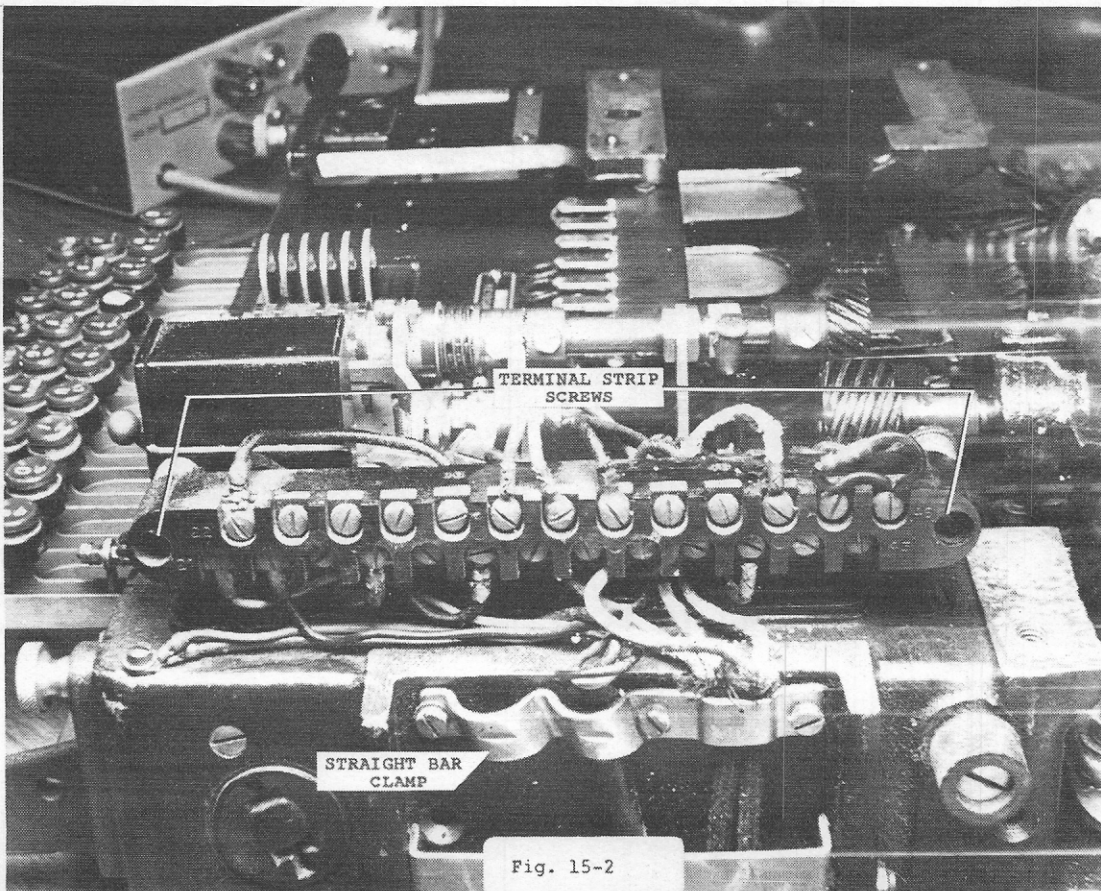

Fig. 15-2
1. Remove all old power and signal cords from the terminal strip on the right side of the base. Loosen the straight-bar clamp (three screws) in order to release the cord. Fig. 15-2.